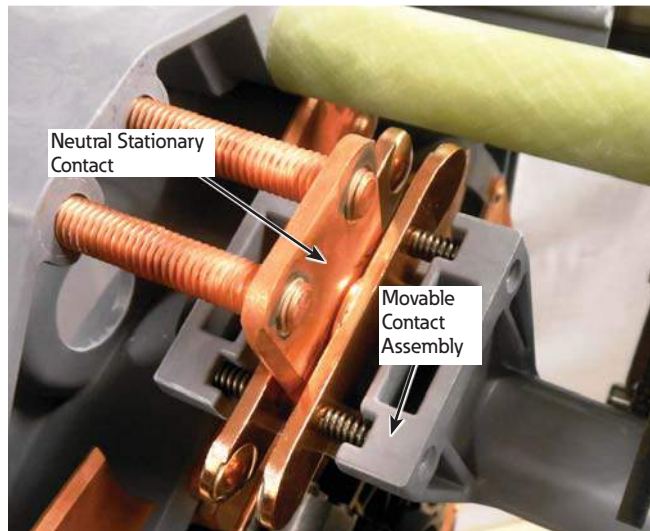

Figure 16. Engaging contacts
19. Continue to reposition the screwdriver, separate the button contacts and rotate the reversing movable contact assembly until the middle button contact is fully engaged in the center of the reversing stationary contact blade. See Figure 16.